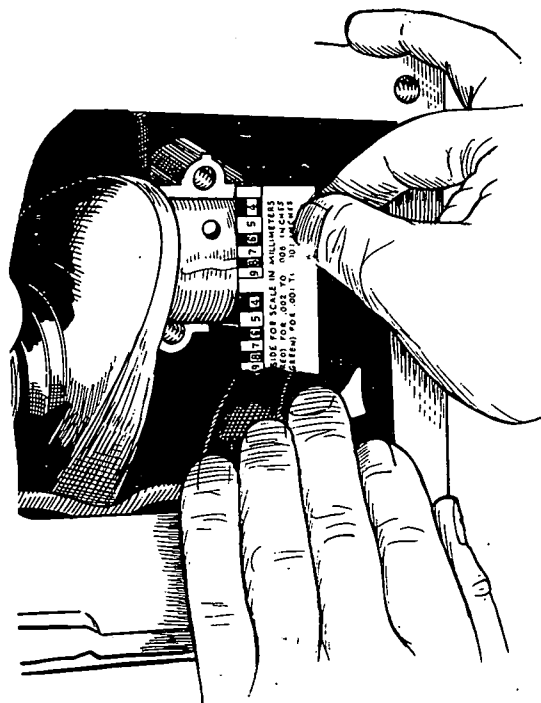

FIGURE 54. MEASURING BEARING CLEARANCE WITH PLASTIGAUGE
2. Place a piece of correct size Plastigauge in the bearing cap the full width of the bearing insert about 1/4 inch (6 mm) off center (Figure 54).